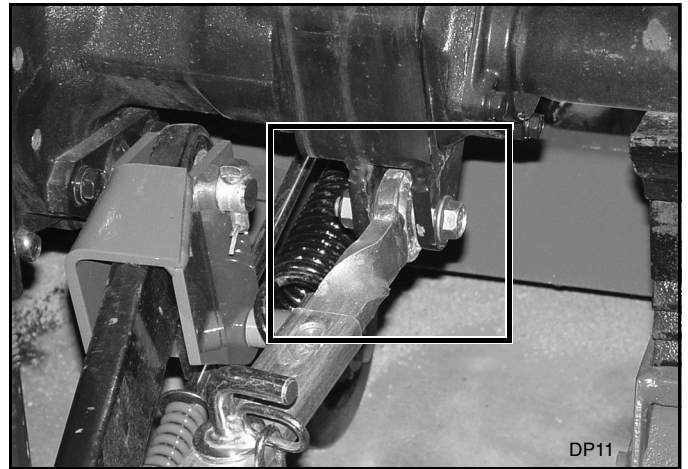

Figure 1. Remove Front Half of Anti-Sway Link Bars (Right Side Shown)
2. Disconnect the anti-sway bars (Figure 1) from the anti-sway brackets and remove front half. Store front half of anti-sway bars for later use when backhoe is removed.